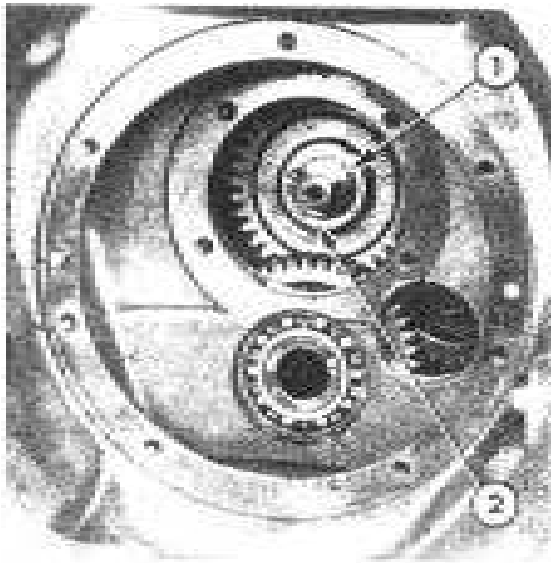

Figure 24
5. Remove the mainshaft assembly retaining snap ring and washer from the front of the "main shaft, Figure 24.